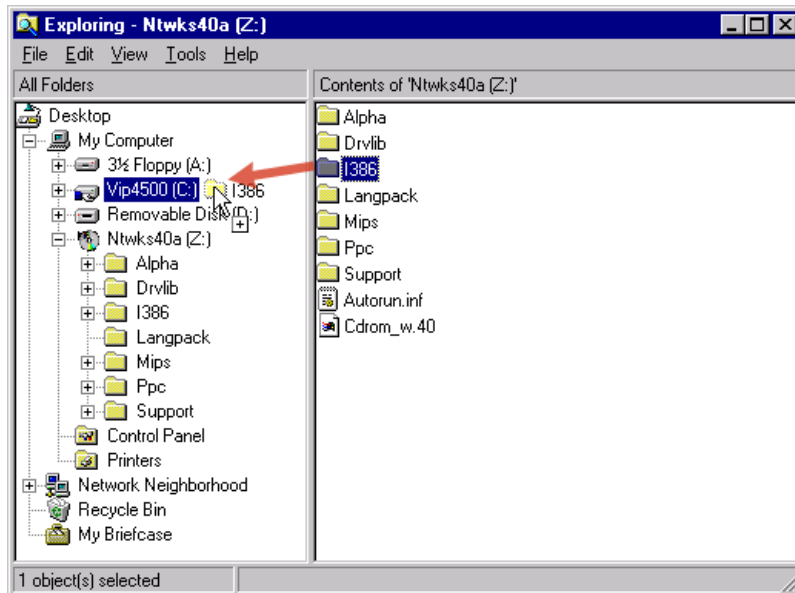

Figure 4 - Copying the i386 Folder to the C:drive
7. You will then get a screen divided into two areas. The left-hand side of the Explorer lists the networks, computers, drives and directories, or folders, connected to the system; the right-hand side shows the sub-directories and files of the selected drive or folder as shown in *Figure 4*, below.